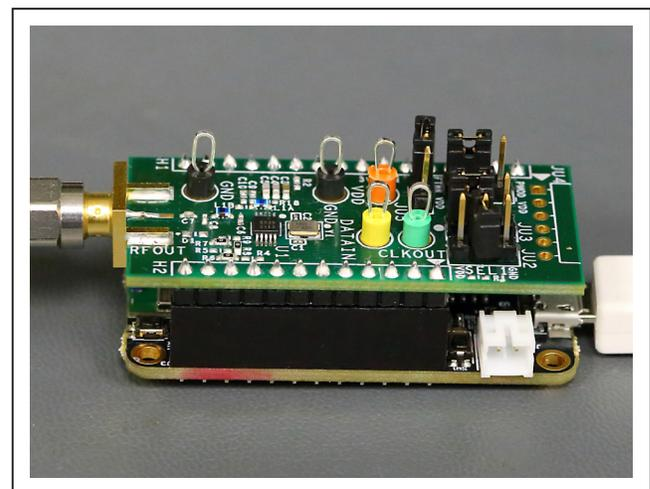

Figure 3. MAX4146x EV Kit Orientation to FTHR Board
2. **Connect the MAX4146x EV kit to the FTHR board;** be sure the USB connector is oriented on the opposite side of the SMA connector (Figure 3).